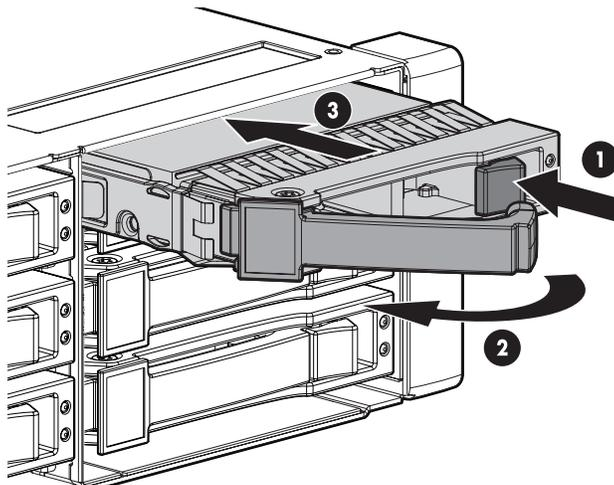

Figure 12 Installing drives into the enclosures
1. As shown in Figure 12, unlatch the drive (1), swing out the handle (2), and slide the drive into the enclosure (3).